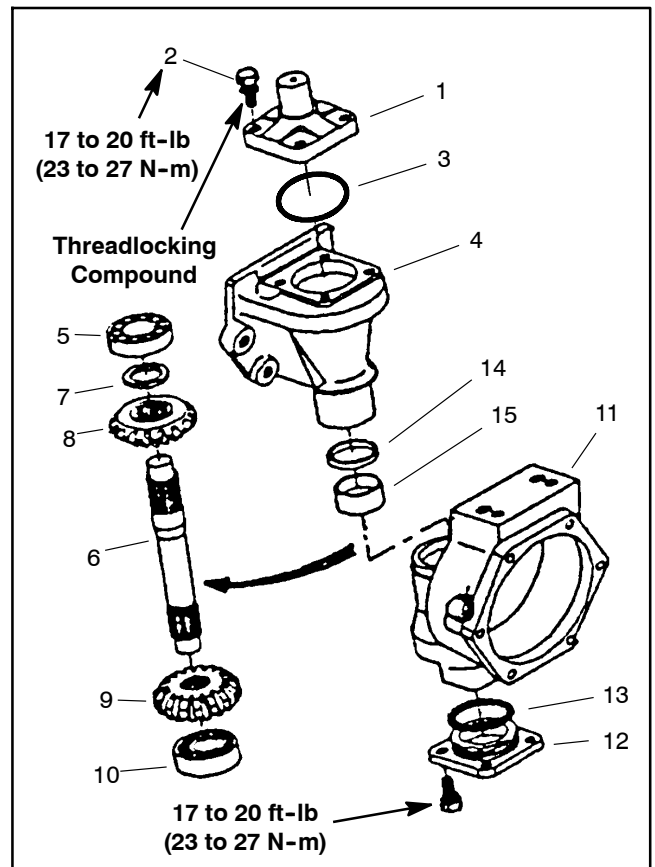

Figure 23
5. Remove the knuckle pin mounting screws and the knuckle pin. Remove the gasket and any remaining gasket material from either mating surface (Fig. 23).
10. Remove and discard bevel gear shaft seal from axle case (Fig. 23).